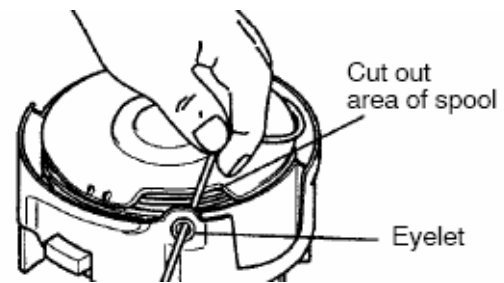

Fig. 25
7. Insert the line through each eyelet in the hub. (Fig.25) Straighten the lines by removing from notches.